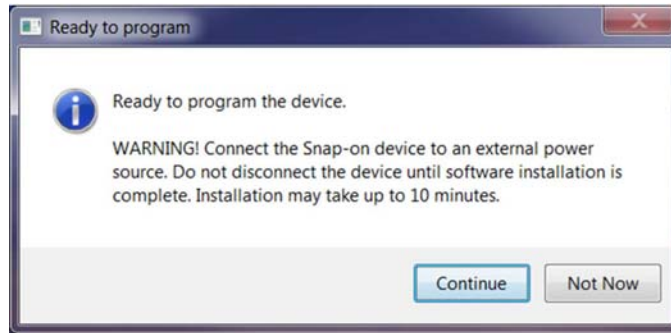

Figure 9-8
3. After the download is complete, the installation confirmation message is displayed. Select **Continue** to proceed with the software upgrade installation (Figure 9-8).